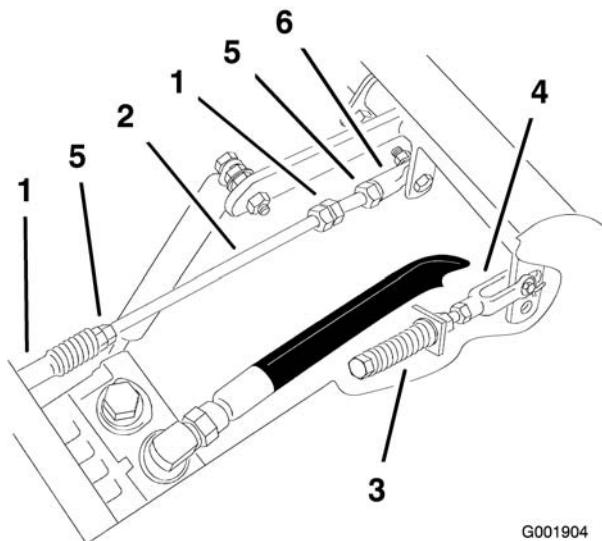

Figure 75
- Loosen the locknuts at the ball joints on the pump control rod (Figure 75).
- Adjust the pump rod length by rotating double nuts on rod, in the appropriate direction, until wheel is still or slightly creeps in reverse (Figure 75).
- Tighten the locknuts at the ball joints (Figure 75).